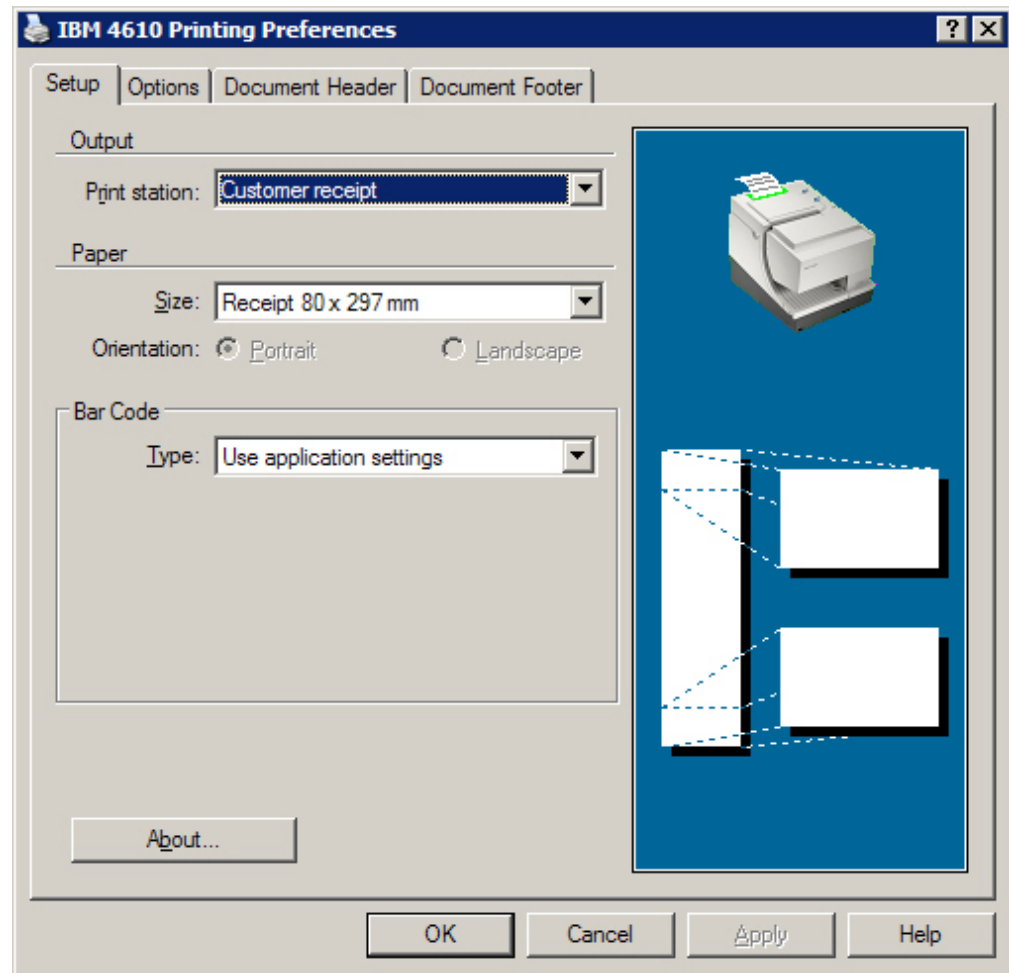

Figure 15. IBM 4610 Printing Preferences
3. Click **Printing Preferences**. The IBM 4610 Printing Preferences window opens with the Setup page selected (see Figure 15).
3. Click **Printing Preferences**. The IBM 4610 Printing Preferences window opens with the Setup page selected (see Figure 15 on page 21).